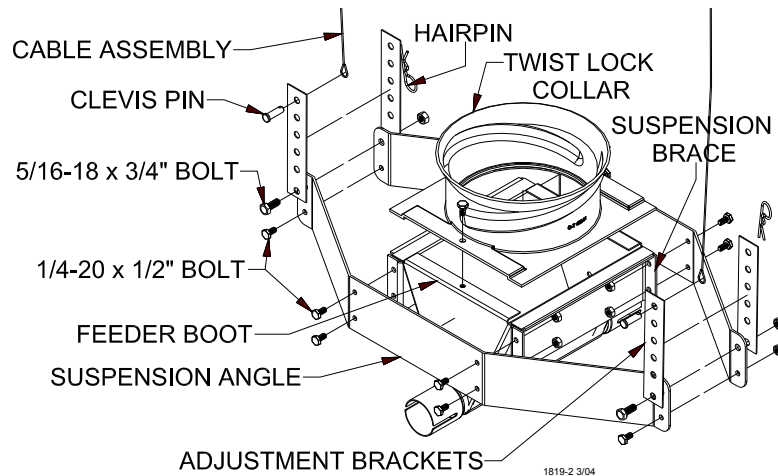

Figure 22. Hopper Assembly (Bottom)
4. Assemble suspension angles and suspension braces around feeder line boot (single or twin), using 1/4-20 x 1/2" Hex bolts and nuts (supplied in hardware package), see **figure 22**.
5. Assemble the twist lock collar to the top of the feeder line boot (single or twin) using 1/4-20 x 1/2" bolts and lock nuts (supplied in hardware package), see **figure 22**.
7. Two cable assemblies (cable with a sleeve clamp and a 5/32 thimble) are supplied with the suspension kit to support the hopper. Attach the cable assemblies to the adjustment brackets using the top holes of the adjustment brackets, see **figure 22**.